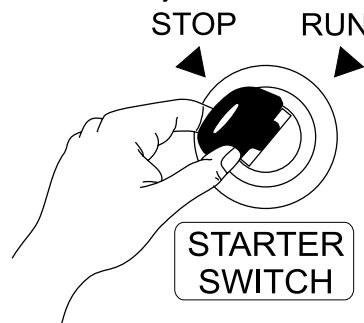

Figure 23. Ignition Key (RUN Position)
5. Insert the ignition key (Figure 23) into the "Starter Switch" and turn the key clockwise to the **RUN** position.